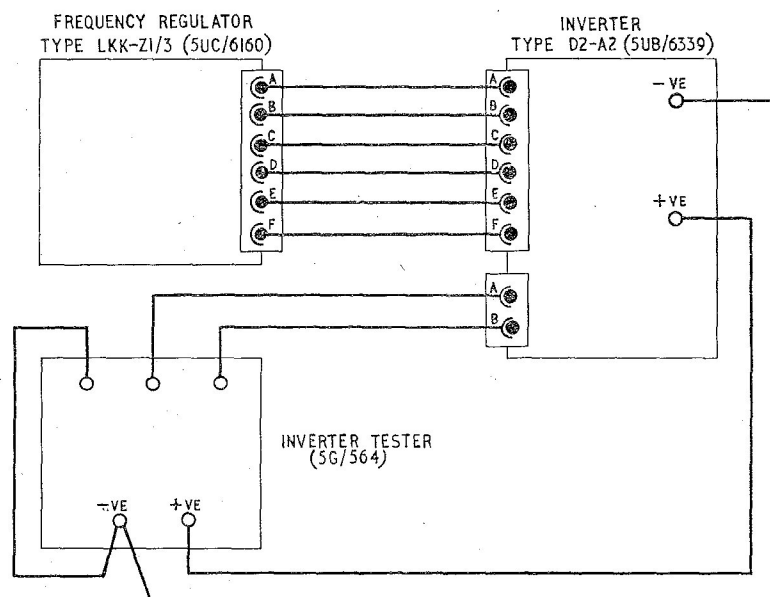

Fig. 1. Test circuit diagram (R.A.F.)
(1) Connect circuit as shown in fig. 1 for R.A.F. use, as shown in fig. 2 for R.N. use. Adjust the supply voltage to 28 volts d.c. and run at full load for 15 mins.
(2) Shut down. Open line B-B to carbon pile. Restart and control machine speed by adjusting supply voltage. Run on full load, adjusting frequency to  $400 \pm 1$  c/s, output voltage to 115 volts r.m.s. Regulator coil current in line F-F should be  $105 \pm 1$  mA. Adjust potentiometer R8 in inverter control box, if necessary.